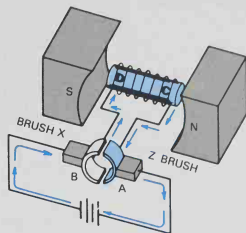

Fig. 10-9. After one-half revolution, end D becomes a south pole.
Such current will make (C) of the armature a south pole and D a north pole. The repulsion and attractive force causes the armature to rotate one-half turn. The commutator bars, of course, turn with the armature and the position of the armature after the half turn would appear as in Fig. 10-9. Now the current flows from the battery to brush (X) to commutator bar B, into the armature coil and out through commutator bar A, through the brush Z back to the battery. Such a current will make C of the armature a north pole and D a south pole. In other words, the commutator has changed the direction of current flow through the armature. This occurs each half revolution and the conditions for continued rotation have been satisfied. If you did not understand this the first time you read it, follow the action through step-by-step until you have a clear picture in your mind of the underlying principles of electric motor operation.